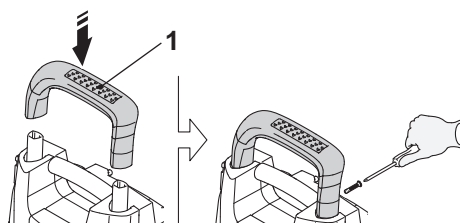

Fig. 2
- > Attach the handle (1) using two screws (20) (Fig. 2).